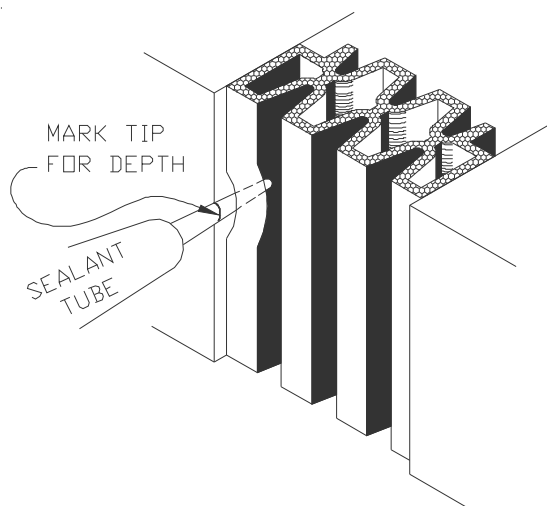
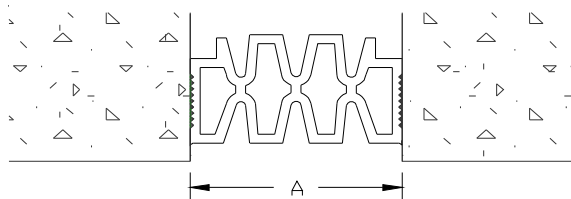

Figure 6
Figure 7
**STEP 5.** Insert the tip of the Silicone Sealant tube between the Silicone Compression Seal and the Substrate about to the midpoint of the seal thickness, see Figure 6. Apply a continuous bead of Silicone Sealant along the Seal. A mark can be placed on the nozzle of the tube to help maintain a constant depth. Repeat this procedure along the opposite side of the Seal, see Figure 7. Ensure that the Seal remains straight, properly aligned, and at the proper depth within the joint.